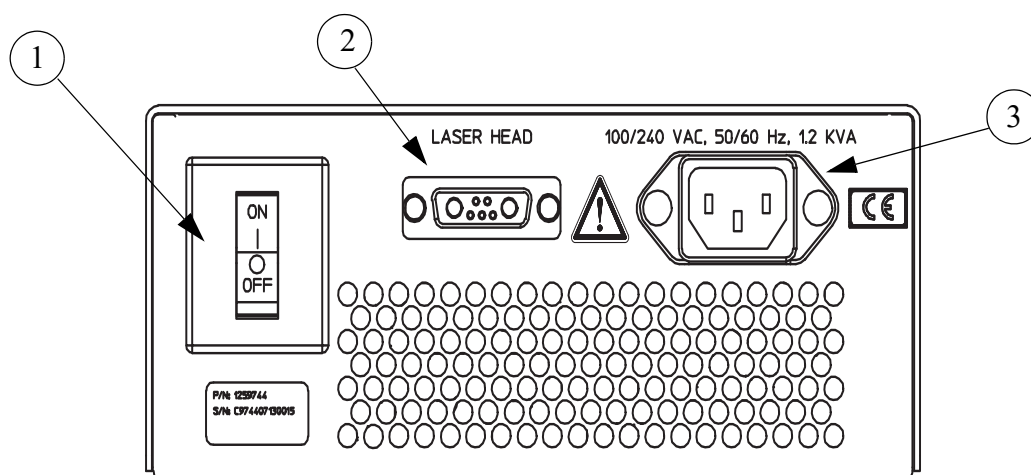

Figure 5-20. Power Supply Rear Panel Controls and Indicators
2. Arrange the chosen power supply and the laser head into their operating positions in an accessible location, preferably away from heat sources. The laser head must be mounted flat and horizontal with feet down. Confirm the power supply cooling air intake and exhaust (front and back) are not blocked or obstructed (refer to Figure 5-19 and Figure 5-20). Coherent recommends using a kinematic alignment plate to enhance the mounting repeatability of the laser head. A mounting plate can be procured from by Coherent (part number 1303793).